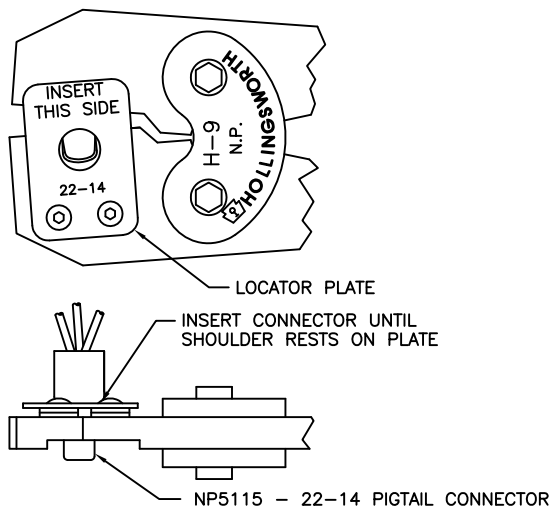

FIG. 1
Both the H9 and the H28-9 come equipped with a locator to assist in the correct positioning of pigtail connectors for crimping. (See Fig. 1)
1. Inset the pigtail connector through the hole in the locator plate, making sure that the shoulder of the connector is resting on the locator plate. (See Fig. 1)
3. Insert the stripped combination of wires into the connector. (See Fig. 1)